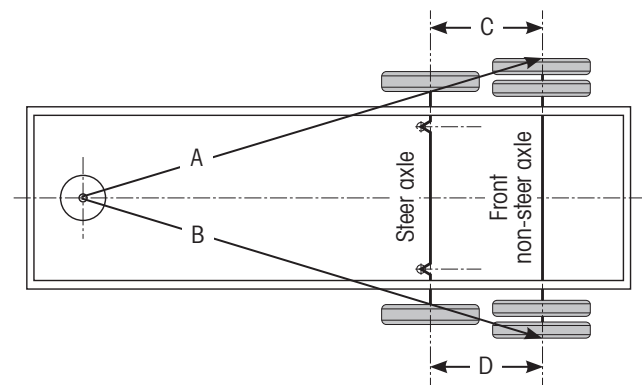

Figure 28: Self-steer axle alignment measurements
IMPORTANT: A self-steer axle must not be used as the primary frontmost axle for axle-axle alignment in these procedures (Figure 28).
1. If not already done so, **align** front (non-steer) axle thrust angle (Figure 28, A=B) according to AXLE ALIGNMENT ADJUSTMENT on page 18.
4. **Follow** AXLE-AXLE ALIGNMENT CHECK on page 16 to **measure** and ensure Figure 28, C=D to within $\frac{1}{8}$ inch (3.17 mm).